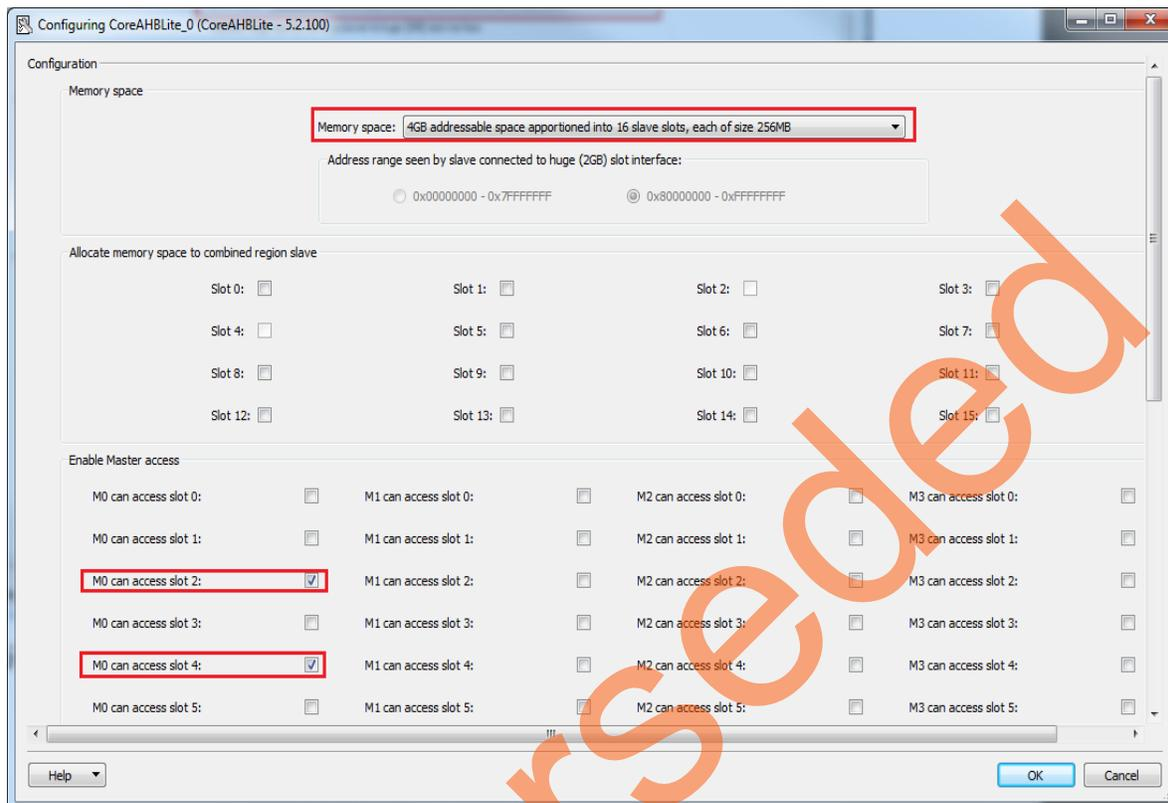

Figure 19 • Configuring CoreAHBLite_0
2. Double-click **CoreAHBLite_0** to configure it. Figure 19 shows the **Configuring CoreAHBLite_0** window.